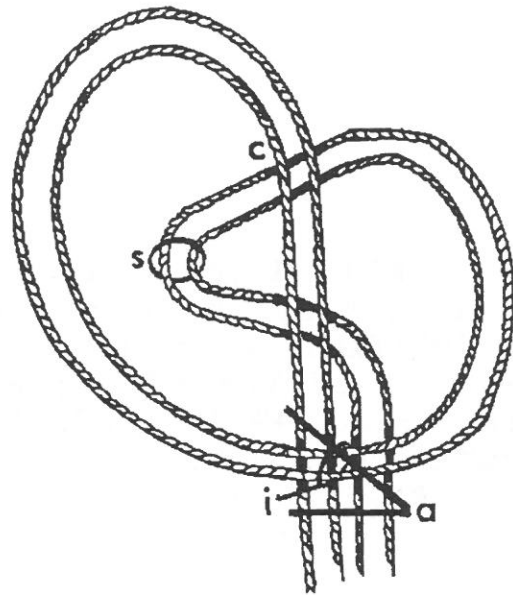

Figure 4
4. Now, pull "s" back the way the left hand traveled, as in Figure 4.